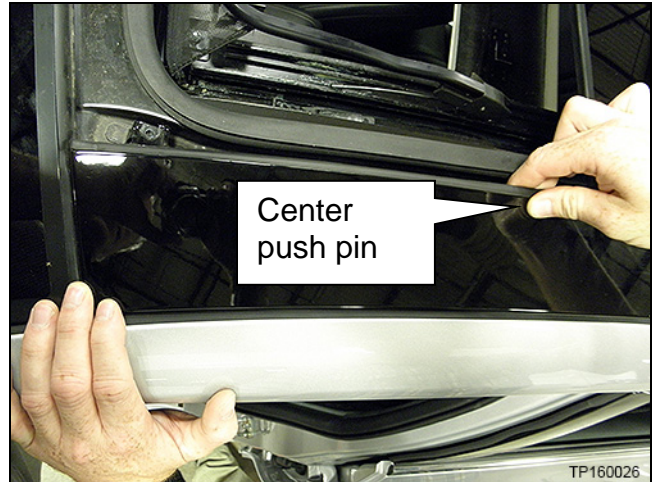

Figure 32
10. Starting from the front of the vehicle and moving rearward, attach each push pin to roof (Figure 32).